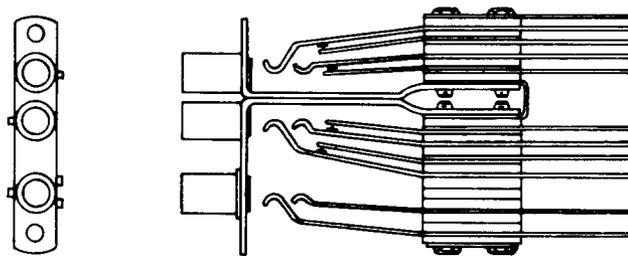

Fig. 8 — KS-21000, L1, Jack
**2.07 KS-21000, L1:** The KS-21000, L1, jack (Fig. 8) is a miniature, triple-type, 3-conductor jack consisting of a single- and twin-jack combination. The single jack provides only tip and ring spring whereas each pileup of the twin jack has a break contact on the tip spring and the ring spring. The jack is intended for use in conjunction with the KS-21156 jack module in the Digital Data System.